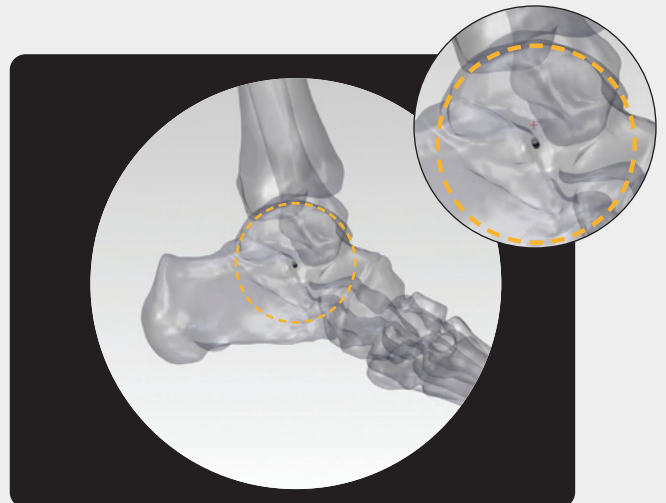

Fig. 1a - 1b
To identify the approximate center of rotation of the tibio-talar joint, place the image intensifier in the medio-lateral (LAT) position and identify the curvature of the tarsus at the ankle joint. Draw a circumference that roughly follows the sinus of the tarsus **Fig 1a**. The center of rotation corresponds to the center of the circumference **Fig 1b**. Rotate the image intensifier by 90 degrees to have the vision in antero-posterior (AP).